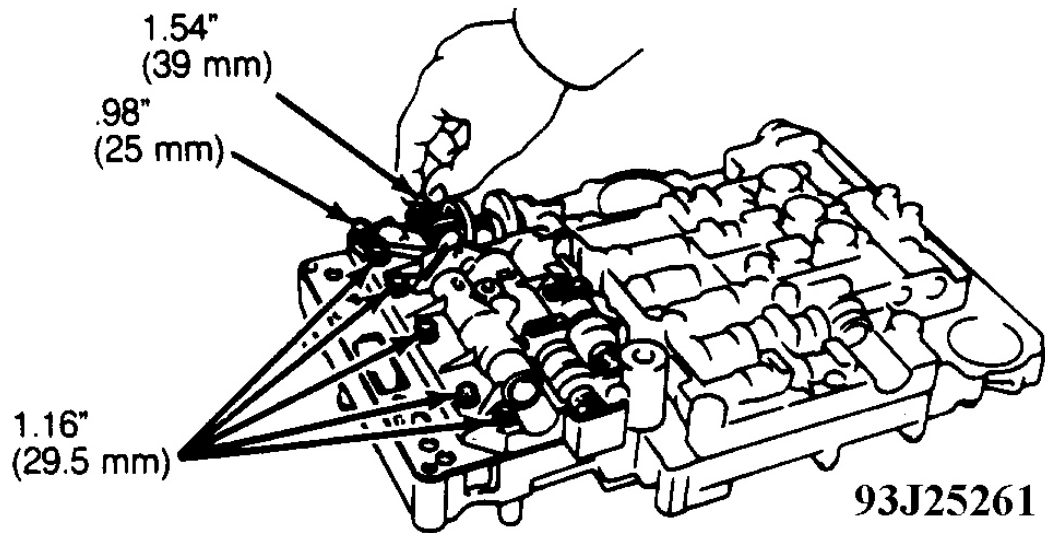

Fig. 49: Locating Valve Body Bolts (3 Of 3)
4. Turn valve body over. Temporarily install 7 wave washers and bolts. See **Fig. 49** .